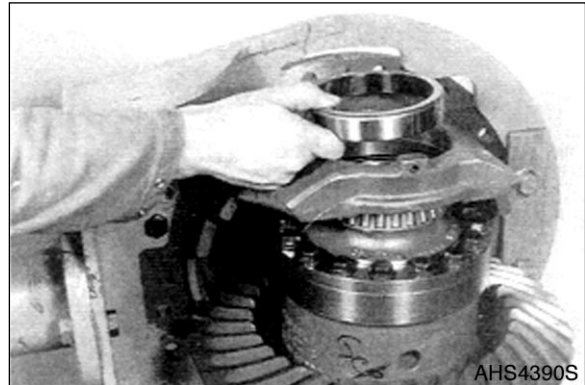

Figure 68
- Drive out roll pin (opposite the crown wheel side), remove adjusting nut and outer bearing race (See Figure 68).